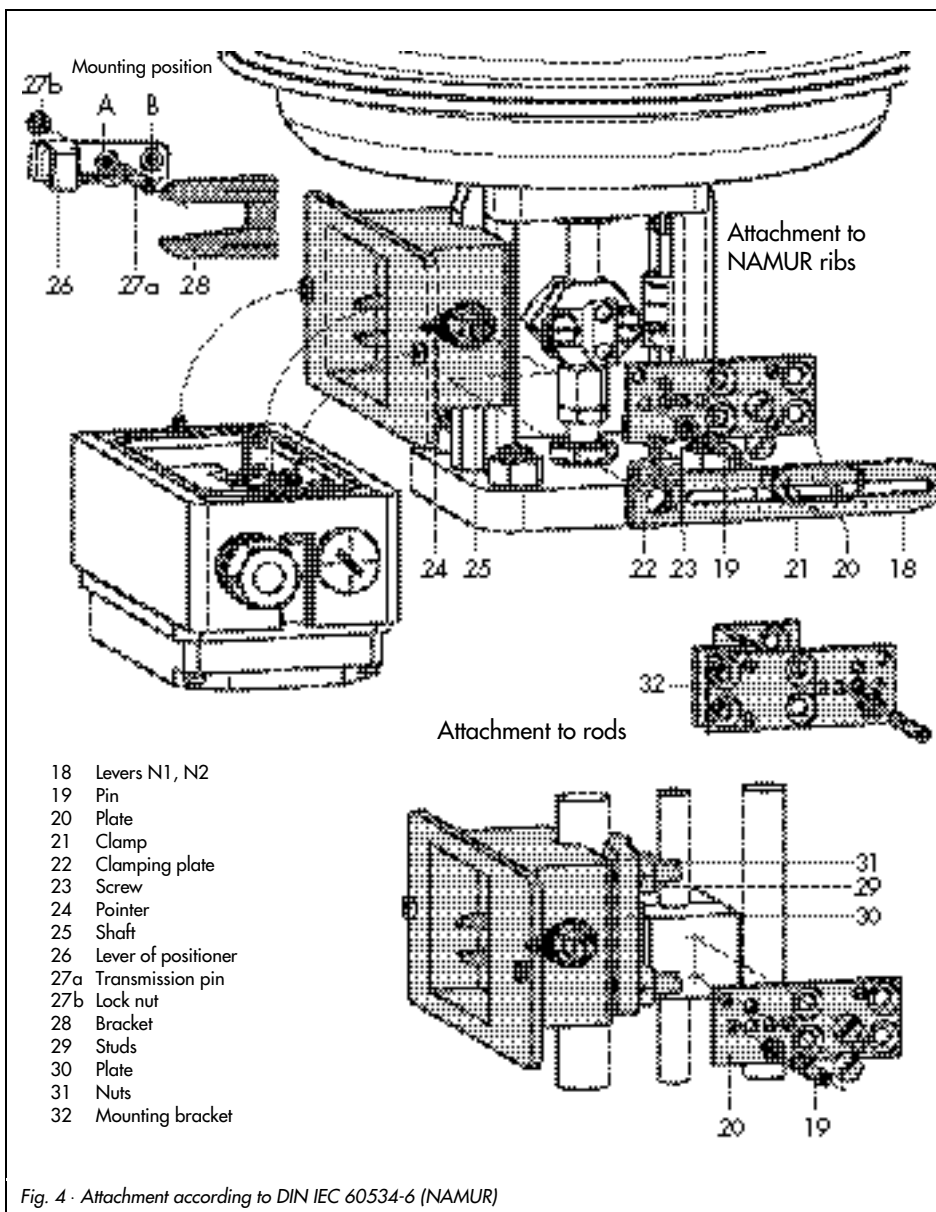

Fig. 4 · Attachment according to DIN IEC 60534-6 (NAMUR)
For positioner attachment according to NAMUR as shown in Fig. 4, you require an adapter housing. The valve travel is transmitted via the lever (18) and the shaft (25) to the bracket (28) of the adapter housing and then to the pin (27) located at the positioner lever.